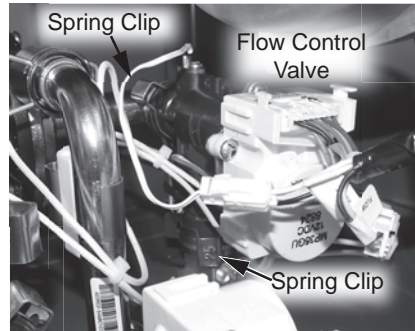

Figure 176 - Flow control valve location
19 Locate the flow control valve at the bottom right side of the water heater. See Figure 176.
20 Remove the two (2) spring clips (size 25) securing the flow control valve to the piping system. Place spring clips aside in a safe place for reinstallation. Remove the flow control valve from pipe connections and set aside in the water heater cabinet. See Figure 176.